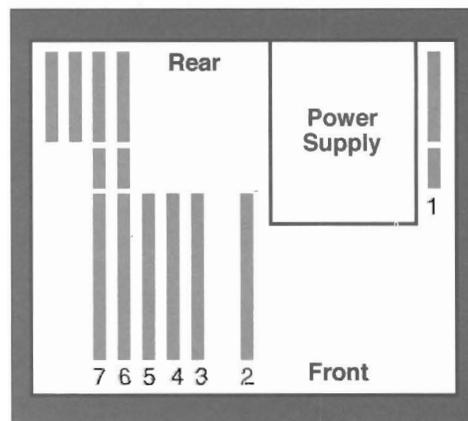

Figure 1.
- 1 Determine the best choice of expansion slots for the SCSI/serial cable run and the Flyer in your computer. See Figure 1 for your options.
See Figure 1.
If you are using NewTek's SCSI accessory cable, make sure you hold the cable correctly before inserting the connectors (the metal tab sticking out of the molded plastic block should aim toward the motherboard expansion slots). It helps to fold the strain relief tabs over the exposed wiring as you tuck each connector through the Amiga slot. See Figure 1.